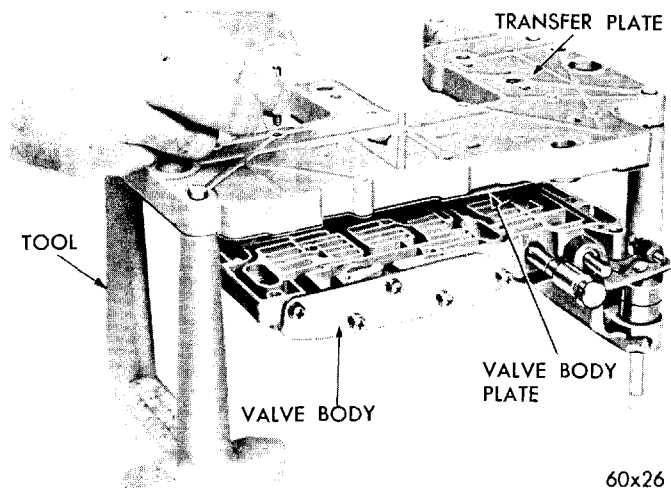
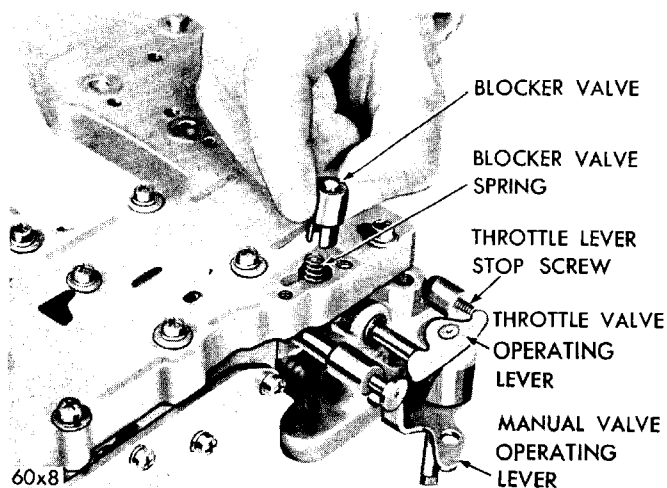

Fig. 93—Valve Body and Transfer Plate Assembly in Stand
Fig. 94—Removal and Installation of Bleaker Valve
(1) Place valve body and transfer plate assembly in stand, Tool C-3528, with the operating lever shafts in the downward position, as shown in Figure 93. **Never clamp any portion of any valve body assembly in a vise or use force when removing or installing valves and plugs.**
(2) Remove the blocker valve retainer, plate blocker valve and spring, Fig. 94.
(3) Remove the cross recess screws that hold the transfer plate, valve body and valve body cover together. All screws are of equal length. **When the last screw is removed, the valve body should be**
(12) Remove the throttle control lever shaft snap ring and while holding the manual valve operating lever detent ball against the spring to prevent loss of ball and spring, slide out throttle and manual valve levers. Remove detent ball and spring, Fig. 94.
(13) Carefully slide manual valve out of valve body.
(14) Remove blocker valve plate, spring and valve Fig. 94.
(1) While holding the valve body, with the oil passage ways facing downward, insert the manual valve operating lever detent spring into the valve body recess followed by the detent ball. Hold ball against the spring with fingers to prevent loss.
(2) Slide throttle lever shaft up through valve body with smallest cam contacting the end of throttle lever stop screw, as shown in Figure 94.
(3) While continuing to hold detent ball against spring, slide manual operating lever down over throttle valve shaft at the same time index the arm on the lever into the end groove of the manual valve. The detent notches in lever should slide down against the detent ball.
(15) Set transfer plate cover (thin steel plate) over stand pilots, Tool C-3528, as shown in Figure 93, followed by the transfer plate so that all screw holes line up.
(16) With all ball check valves in place, position the valve body up against the transfer plate and cover, aligning the screw holes and install the attaching screws and washers. Tighten all screws evenly to 25-30 inch pounds torque.
(17) Insert reverse blocker valve spring into top of transfer plate, as shown in Figure 94, followed by blocker valve. Slot in lower portion of blocker valve must index with bar of transfer plate cover so that valve can be depressed flush with top of transfer plate.
(18) Position blocker valve cover plate over blocker valve so that all openings in the transfer plate are completely covered and tighten screws to 25-30 inch